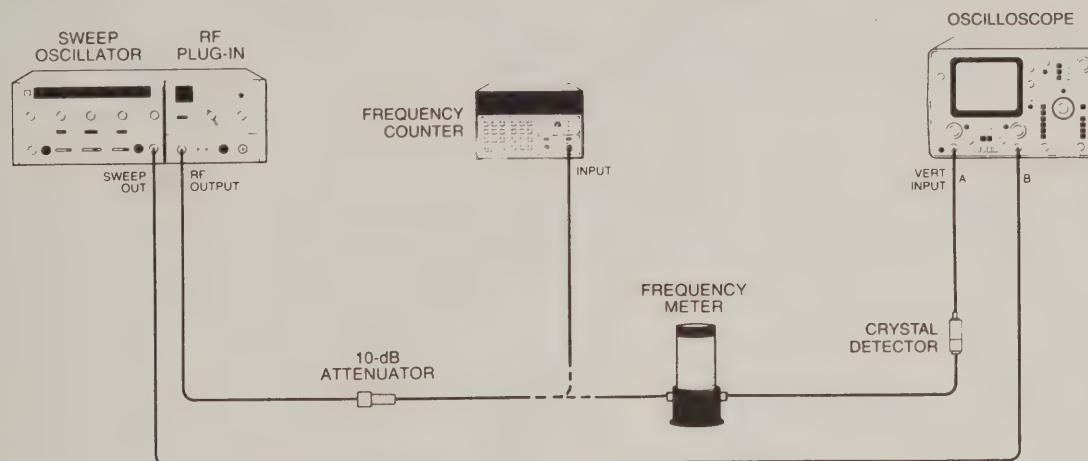

Figure 5-30. Band Switch Overlap Adjustments Setup
- b. Connect equipment as shown in Figure 5-30 with frequency counter connected to 86290B RF OUTPUT. Press 8620C LINE switch ON. Press CW and CW VERNIER pushbuttons. Adjust CW MARKER and CW VERNIER controls for frequency counter indication of 6.200 GHz.